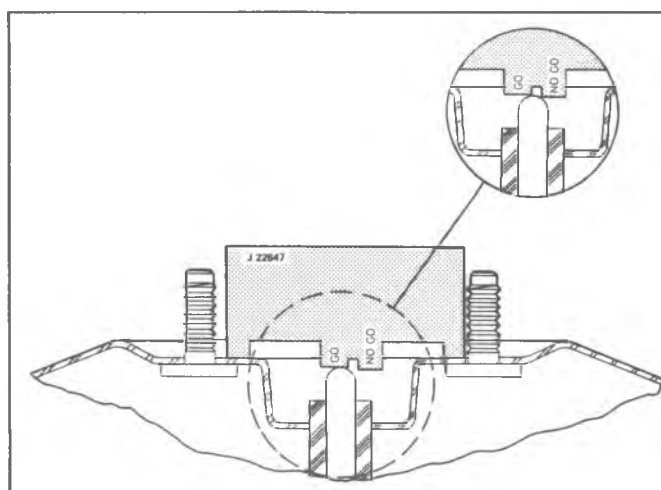

Fig. 15B—Gauging Piston Rod
4. Place Gauge J-22647 over the piston rod in a position which will allow the gauge to be slipped to the left or right without contacting the studs (fig. 15B).